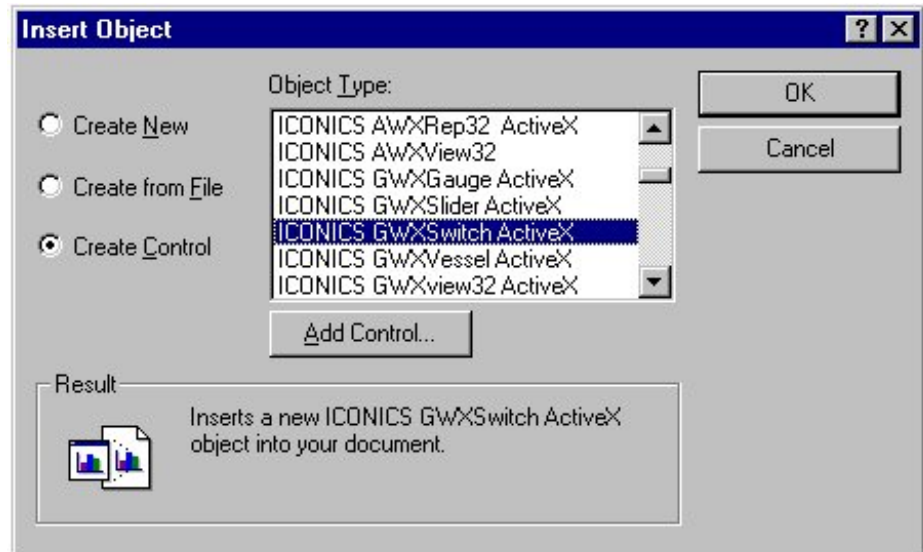

Figure 16-2: Insert Object Dialog Box
1. In M-Graphics on the Edit menu, select Insert New Object. The Insert Object dialog box appears (Figure 16-2).